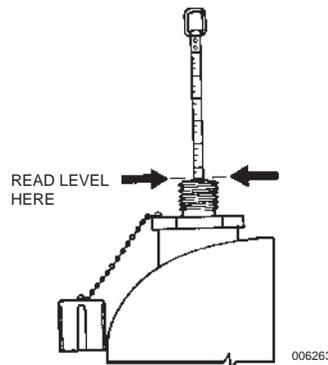

FIGURE 2
- c. Read the measurement on the tape directly at the top of the plastic sleeve in the measuring device housing (see Figure 2). Record this measurement and note the temperature of the tank module.